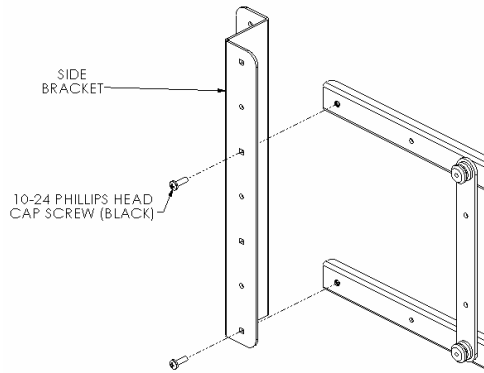
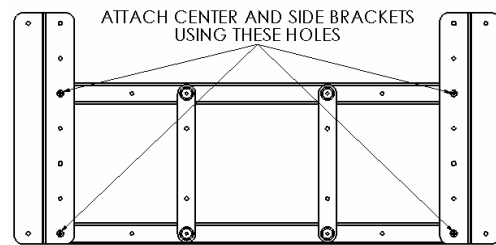

Figure 4
Figure 5
3. **Side Bracket Assembly:** Attach center brackets to side brackets using black 10-24 phillips screws and the square holes of side brackets (see Figure 4 & Figure 5).